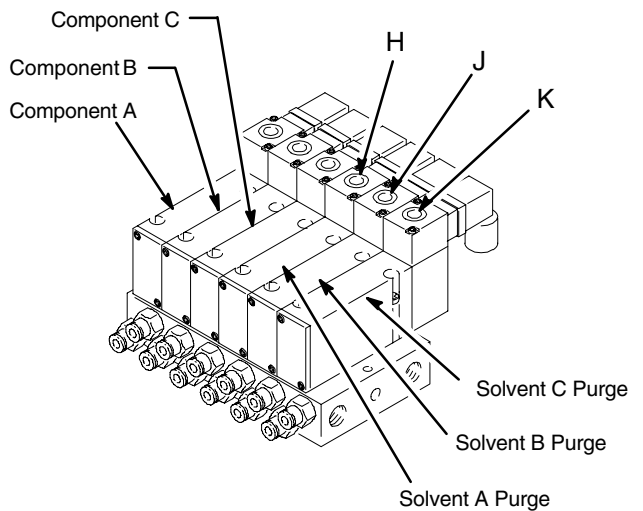

Fig. 4.7
6. Press the manual override button (K) on the solvent solenoid valve, which is inside the Precision-Mix II 3K solenoid enclosure. Refer to Fig. 4.7.
3. Trigger the spray gun, and press the manual override button for air on the manifold solenoid valves for five seconds. See Fig. 4.7, page 4–9.